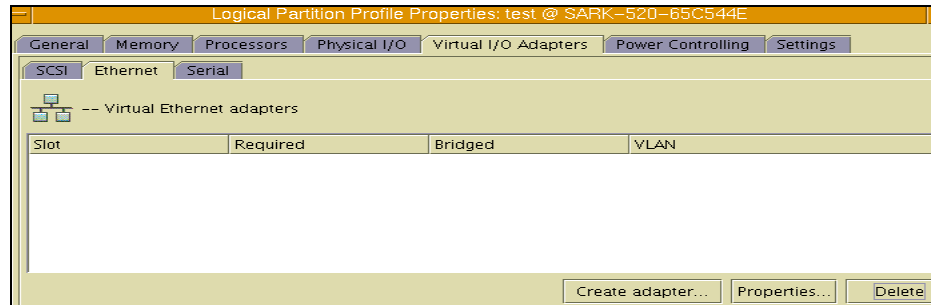

Figure 4-22 Create Virtual Ethernet on VIO server
4. Create the Virtual Ethernet on the VIO server. Click the **Ethernet** tab, then click **Create adapter...** as shown in Figure 4-22.